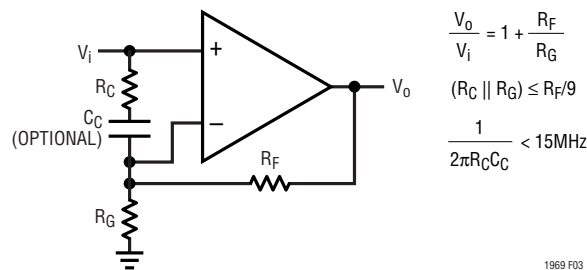
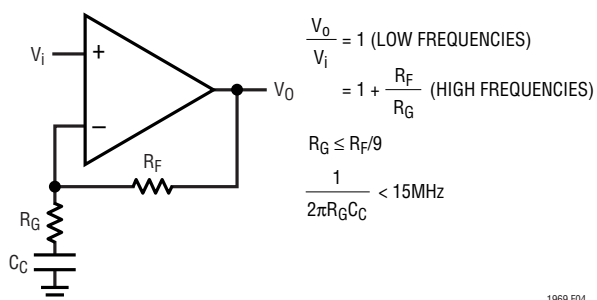
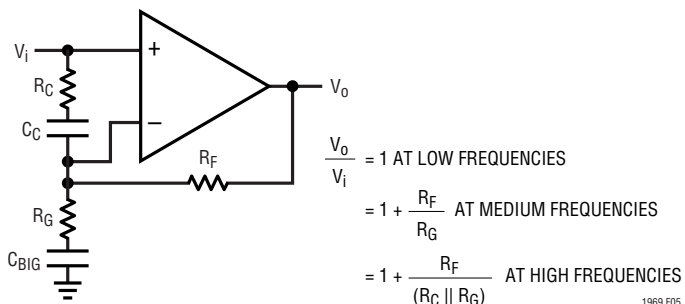

Figure 3. Compensation for Noninverting Gains
Figure 4. Alternate Noninverting Compensation
Figure 5. Combination Compensation
Figure 3 shows compensation in the noninverting configuration. The R_C , C_C network acts similarly to the inverting case. The input impedance is not reduced because the
Another compensation scheme for noninverting circuits is shown in Figure 4. The circuit is unity gain at low frequency and a gain of $1 + R_F/R_G$ at high frequency. The DC output offset is reduced by a factor of ten. The techniques of Figures 3 and 4 can be combined as shown in Figure 5. The gain is unity at low frequencies, $1 + R_F/R_G$ at mid-band and for stability, a gain of 10 or greater at high frequencies.
-73dBc for all swings up to 16V_{P-P} into the line. The gain of this circuit from the differential inputs to the line voltage is 10. Lower gains are easy to implement using the compensation techniques of Figure 5. Table 2 shows the drive requirements for this standard circuit.